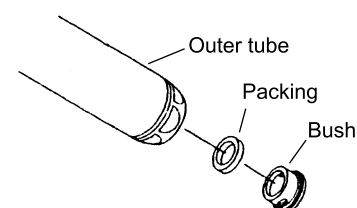

Fig.10
- 10) Pulling out a bush inside the adapter by hand, remove packing held further inside and check it, by washing, for any wear or scars. (Fig.10)